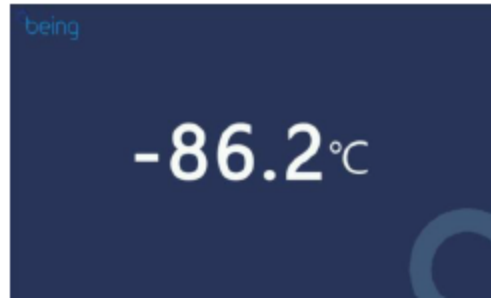

Figure 1-12.
1. After the product is powered on, the display will automatically enter the screen saver, and the temperature in the freezer will be displayed in real time. As shown in Figure 1-12.